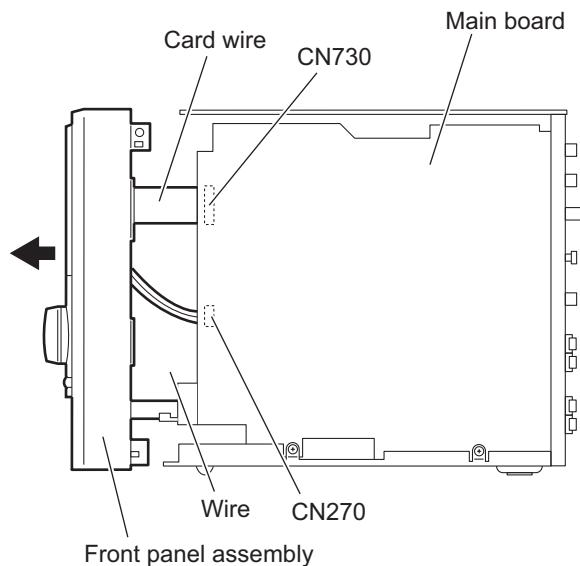

Fig.8
- (5) From the right side of the main body, disconnect the card wire from the connector CN730 on the main board. (See Fig.8.)
- (6) Disconnect the wire from the connector CN270 on the main board. (See Fig.8.)
- (7) Remove the front panel assembly in the direction of the arrow. (See Fig.8.)